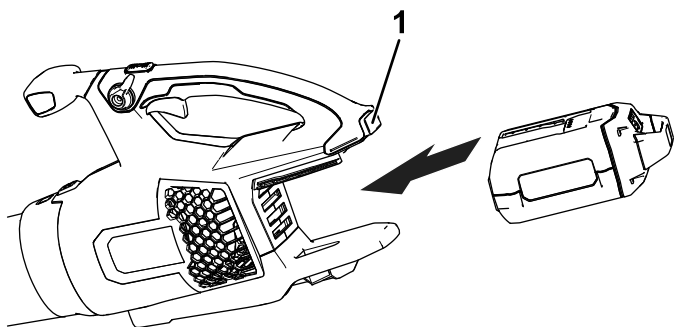

Figure 2
2. Align the cavity on the battery pack with the tongue in the handle housing (Figure 2).